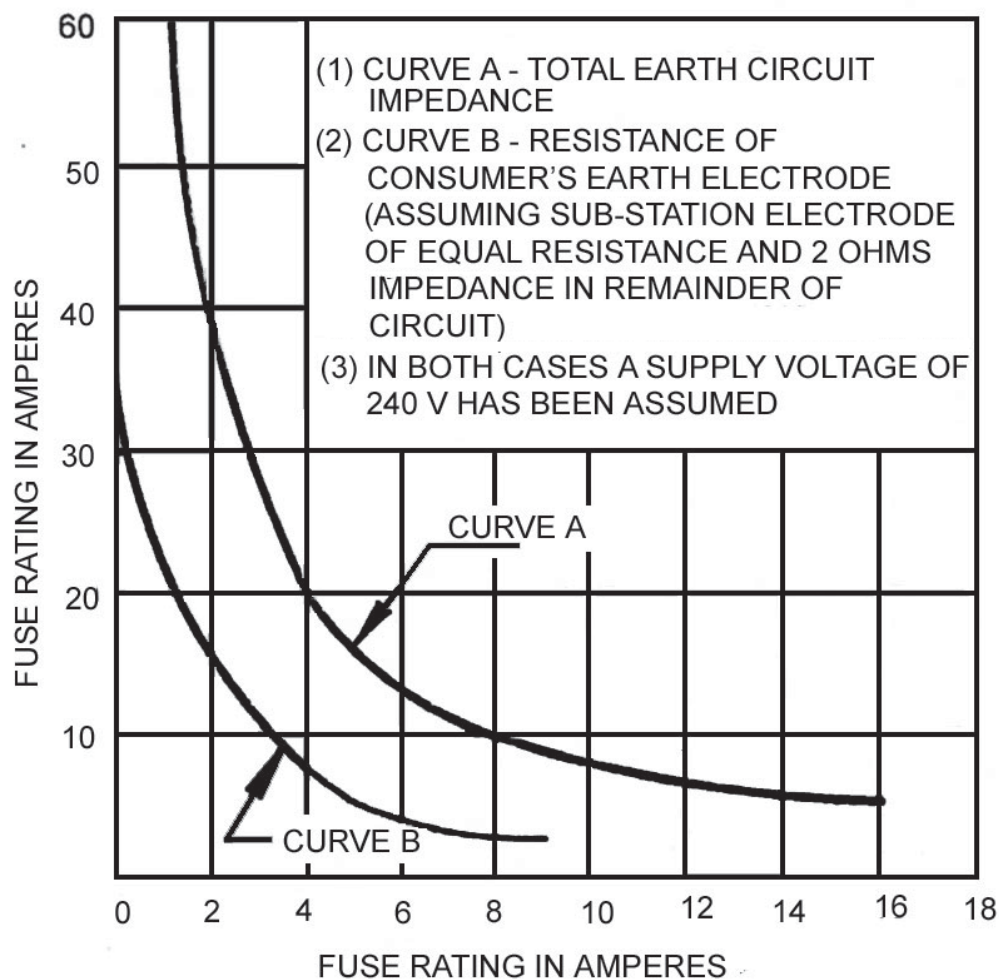

Fig.1: Recommended Earth Circuit Impedance of Resistance for Different Values of Fuse Rating
3.1.5 At consumer's premises where the apparatus is protected by fuses, the total earth circuit impedance shall not be more than that obtained by graphs given in Fig. 1.